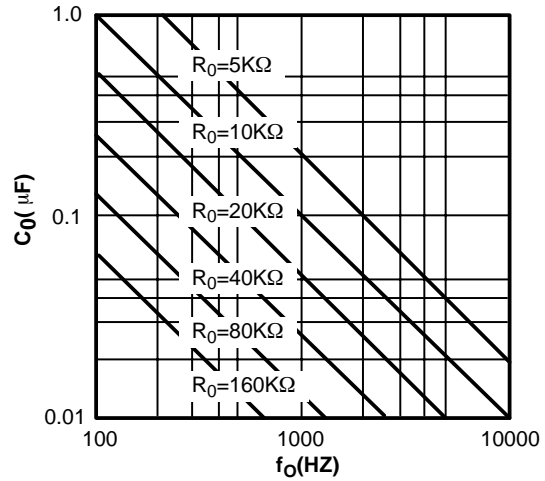

Figure 6. VCO Frequency vs. Timing Resistor
VCO Timing Capacitor (Pins 13 and 14): VCO frequency is inversely proportional to the external timing capacitor, C_0 , connected across these terminals (see *Figure 6*). C_0 must be non-polar, and in the range of 200pF to 10μF.
- Calculate value of C_0 from design equation (1) or from *Figure 6* $f_S = f_0$: